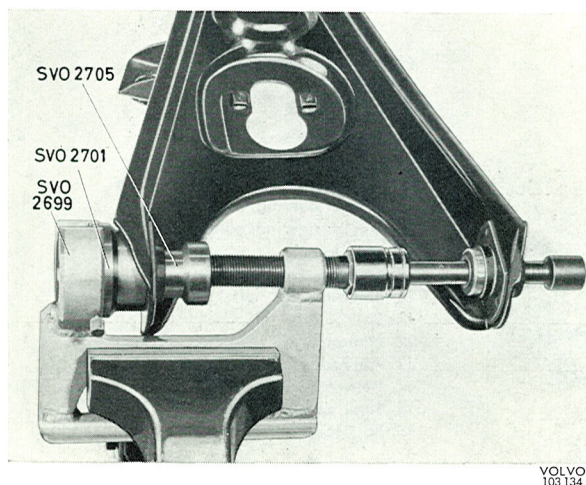

Fig. 6-29. Removing the rubber bush, lower wishbone
1. Tension the press tool SVO 2699 in the vise. Press out the bushes with drift SVO 2705 and tool SVO 2701, see Fig. 6-29.